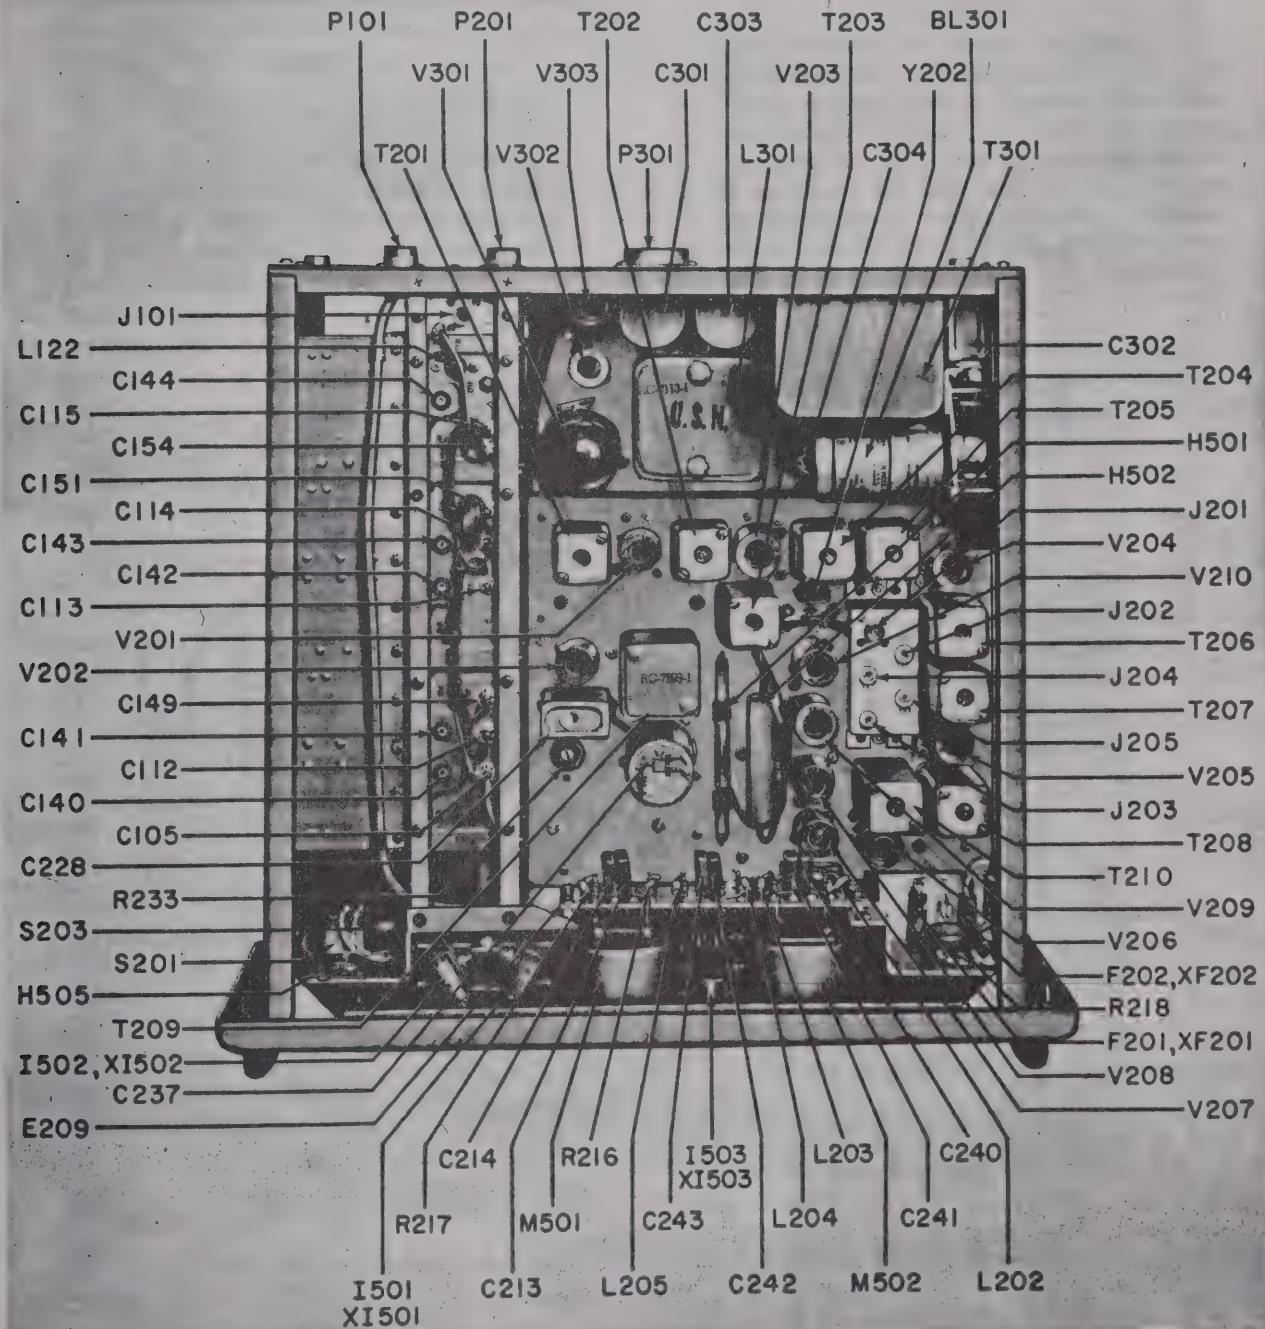
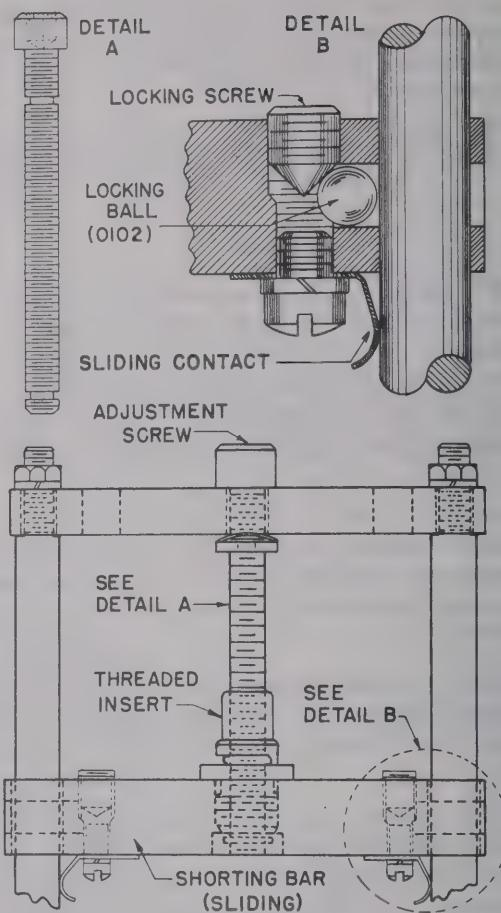

Figure 7-5. Radio Receiver R-482/URR-35, Top View—Identification of Components
Figure 7-9. Details of Trimmer Inductances L103, L104, L107, L108, L111 and L112
(1) RF Signal Generator AN/URM-25 series, Navy Model LP series, or equivalent signal generator having output impedance of 50 ohms.
(2) RF Signal Generator Navy Model LAF series, or equivalent.
(3) Multimeter ME-25/U series, Vacuum Tube Volt-Ohm-Milliammeter Navy Model OBQ series, or equivalent.
(4) Insulated alignment tool H501 and alignment loading tool H502, both mounted in clips on receiver chassis; see figure 7-5.
FUSE HOLDERS XF201 AND XF202 AT THE RIGHT SIDE OF THE FRONT SUB-PANEL; SEE FIGURE 7-5.
(1) Connect the output of RF Signal Generator AN/URM-25, or Navy Model LP, or equivalent, to 18.6-mc test jack J101 (see figure 7-5). Use type RG-58/U cable for connections.
Refer to figures 7-5 and 7-6 for the locations of test jacks, i-f transformers and their terminals, and controls, as well as for the use and location of alignment tool H502.
(1) Perform steps (1) through (5) of paragraph 4c, this section.
(2) Turn the output control of the signal generator to zero and note the AGC voltage, as indicated on the electronic multimeter. Increase the signal generator output until the AGC voltage just starts to increase.
(3) Connect the electronic multimeter between detector test jack J203 (see figure 7-5) and ground.
(4) Tune transformer T210 (see figure 7-5) for minimum indication on the electronic multimeter.
(1) Connect the electronic multimeter between AGC test jack J204 (see figure 7-5) and ground.
(2) Set the OSC. switch to its MANUAL position.
(3) Tune the receiver throughout its entire range to find the lowest AGC voltage as indicated by the electronic multimeter.
(4) If the AGC voltage on the electronic multimeter is other than -2.3 volts, adjust it to that value by means of I.F. GAIN control R233, shown in figure 7-5. If it is not possible to adjust the AGC voltage to -2.3 volts, set it to the greatest negative voltage that can be obtained, which should be at least -2.0 volts. A maximum AGC voltage of less than -2.0 volts indicates a faulty receiver.
A D-C POTENTIAL OF 180 VOLTS IS PRESENT AT SOME OF THE INDUCTANCE AND CAPACITOR TRIMMER SCREWS AND AT SOME OF THE TRIMMER-INDUCTANCE LOCKING SCREWS. WHEN LOOSENING OR TIGHTENING THE LOCKING SCREWS BE CERTAIN THAT RECEIVER POWER IS OFF. USE THE INSULATED ALIGNMENT TOOL (H501, FIGURE 7-5) FOR ALL SPLINED TRIMMER-SCREW ADJUSTMENTS.
(1) De-energize the receiver and remove the shielding covers from the preselector. Loosen the locking screws on trimmer inductances L103, L104, L107, L108, L111 and L112 (see figures 7-9 and 7-10) about one-eighth of a turn, using the Bristol wrench (H505, figure 7-5) mounted near the dial-drive assembly. Replace the shielding covers.
(2) Connect the output of RF Signal Generator Navy Model LAF, or equivalent, to the 50 OHM ANT. input connector (J404) on the low-pass filter. Adjust the output attenuator of the signal generator for minimum output.
(3) Install a crystal, in the receiver CRYSTAL holder, which corresponds to some channel frequency between 230 and 234 megacycles, as determined by the formula:
(5) Place the probe of the electronic multimeter on second-doubler-grid test point C124 and tune second-doubler-grid inductance L115 for a maximum meter reading.
(6) Place the probe of the electronic multimeter on tripler-grid test point C131 and tune tripler-grid inductance L117 for a maximum meter reading.
(7) Place the probe of the electronic multimeter on the trimmer screw of mixer-grid inductance L111 and tune tripler-plate inductance L112 for a maximum meter reading.
(8) Connect the electronic multimeter between AGC test jack J204 and ground; see figure 7-5.
(14) Place the probe of the electronic multimeter on second-doubler-grid test point C124 and tune second-doubler-grid trimmer capacitor C147 for a maximum meter reading.
(15) Place the probe of the electronic multimeter on tripler-grid test point C131 and tune tripler-grid trimmer capacitor C145 for a maximum meter reading.
(16) Place the probe of the electronic multimeter on the trimmer screw of mixer-grid inductance L111 and tune tripler-plate trimmer capacitor C146 for a maximum meter reading.
(17) Connect the electronic multimeter between AGC test jack J204 and ground; see figure 7-5.
(18) Tune the signal generator for a maximum reading on the meter. The output attenuator of the signal generator should then be adjusted to give a reading of approximately 4 volts on the electronic multimeter (0.4 on the INPUT meter).
(19) Using the alignment tool (H501), tune the r-f amplifier and mixer trimmer capacitors for a maximum reading on the electronic multimeter, in the following order:
(20) Set the OSC. switch to MANUAL. Note that when this is done, the electronic multimeter reading may drop to about 2 volts (0.2 on INPUT meter). Now tune oscillator trimmer capacitor C148 until the meter reading is a maximum; refer to the note following step (13).